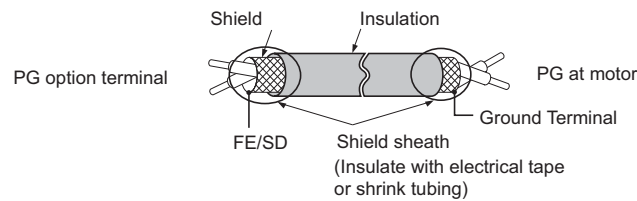
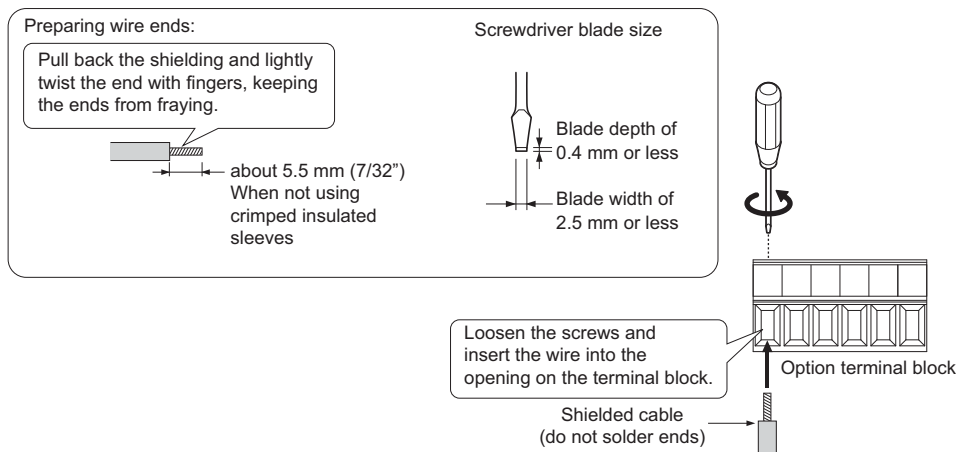

Figure 8.6 Preparing Ends of Shielded Cable
Figure 8.7 Preparing and Connecting Cable Wiring
2. There are two screw holes on the drive for use as ground terminals (H). When connecting three options, two ground wires will need to share the same drive ground terminal.
4. Prepare and connect the wire ends as shown in Figure 8.6 and Figure 8.7. Refer to Wire Gauges and Tightening Torques on page 396 to confirm that the proper tightening torque is applied to each terminal. Take particular precaution to ensure that each wire is properly connected and wire insulation is not accidentally pinched into electrical terminals.